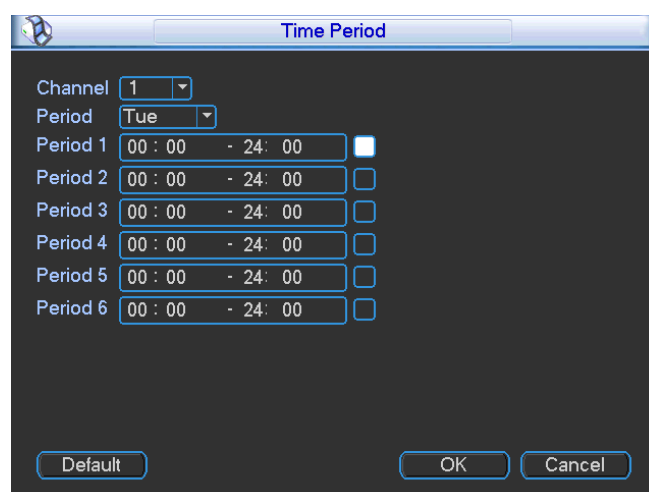

Figure 4-41
- ✧ Schedule: Click it; you can see an interface shown as in Figure 4-41. Here you can set snapshoot period.